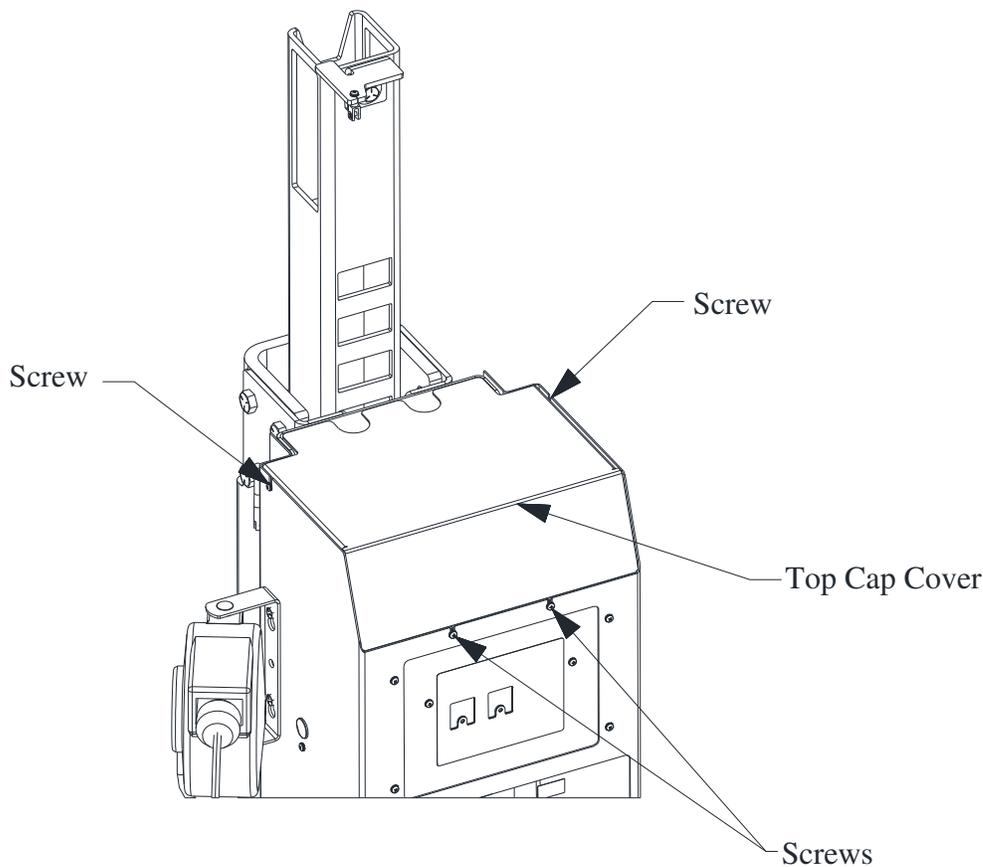

Figure 9: Checking Down Stop Catch Pawl Position
- Remove the top cap cover by loosening the 4 screws shown in Figure 9 and then lifting up on the cover to remove it.